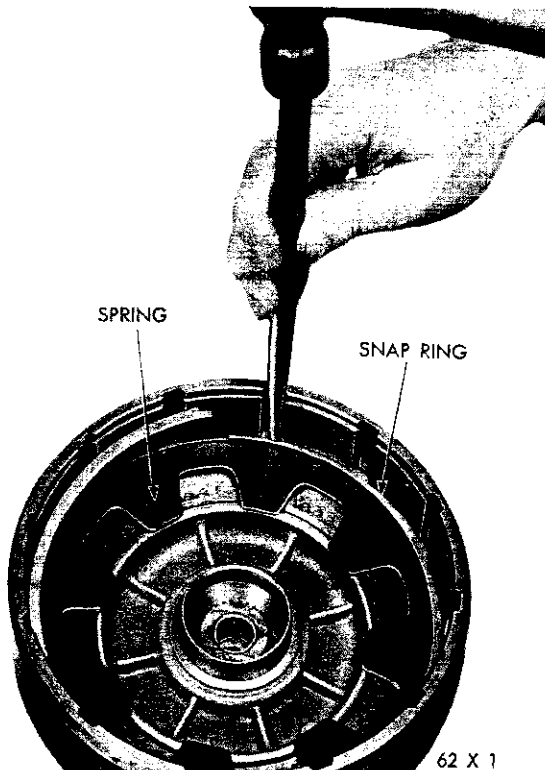

Fig. 73—Installing Rear Clutch Spring and Snap Ring
(2) Lubricate and install the inner and outer seal rings on the clutch piston. Make sure lip of seals face toward head of the clutch retainer, and are properly seated in the piston grooves.
(3) Place the piston assembly in the retainer and, with a twisting motion, seat the piston in bottom of the retainer.
(4) Position the clutch retainer over the piston retainer splines and support the assembly so the clutch retainer remains in place.
(5) Place spring over the piston with outer edge of spring positioned below the snap ring groove. Start one end of snap ring in the groove, make sure the spring is exactly centered on the piston, then progressively tap the snap ring into the groove (Fig. 73). Be sure the snap ring is fully seated in the groove.
(6) Install the inner pressure plate in the clutch retainer with raised portion of plate resting on the spring.
(7) Lubricate all clutch plates, install one lined plate followed by a steel plate until all plates are installed. Install the outer pressure plate and snap ring.
(8) With the rear clutch completely assembled, insert a feeler gauge between the pressure plate and